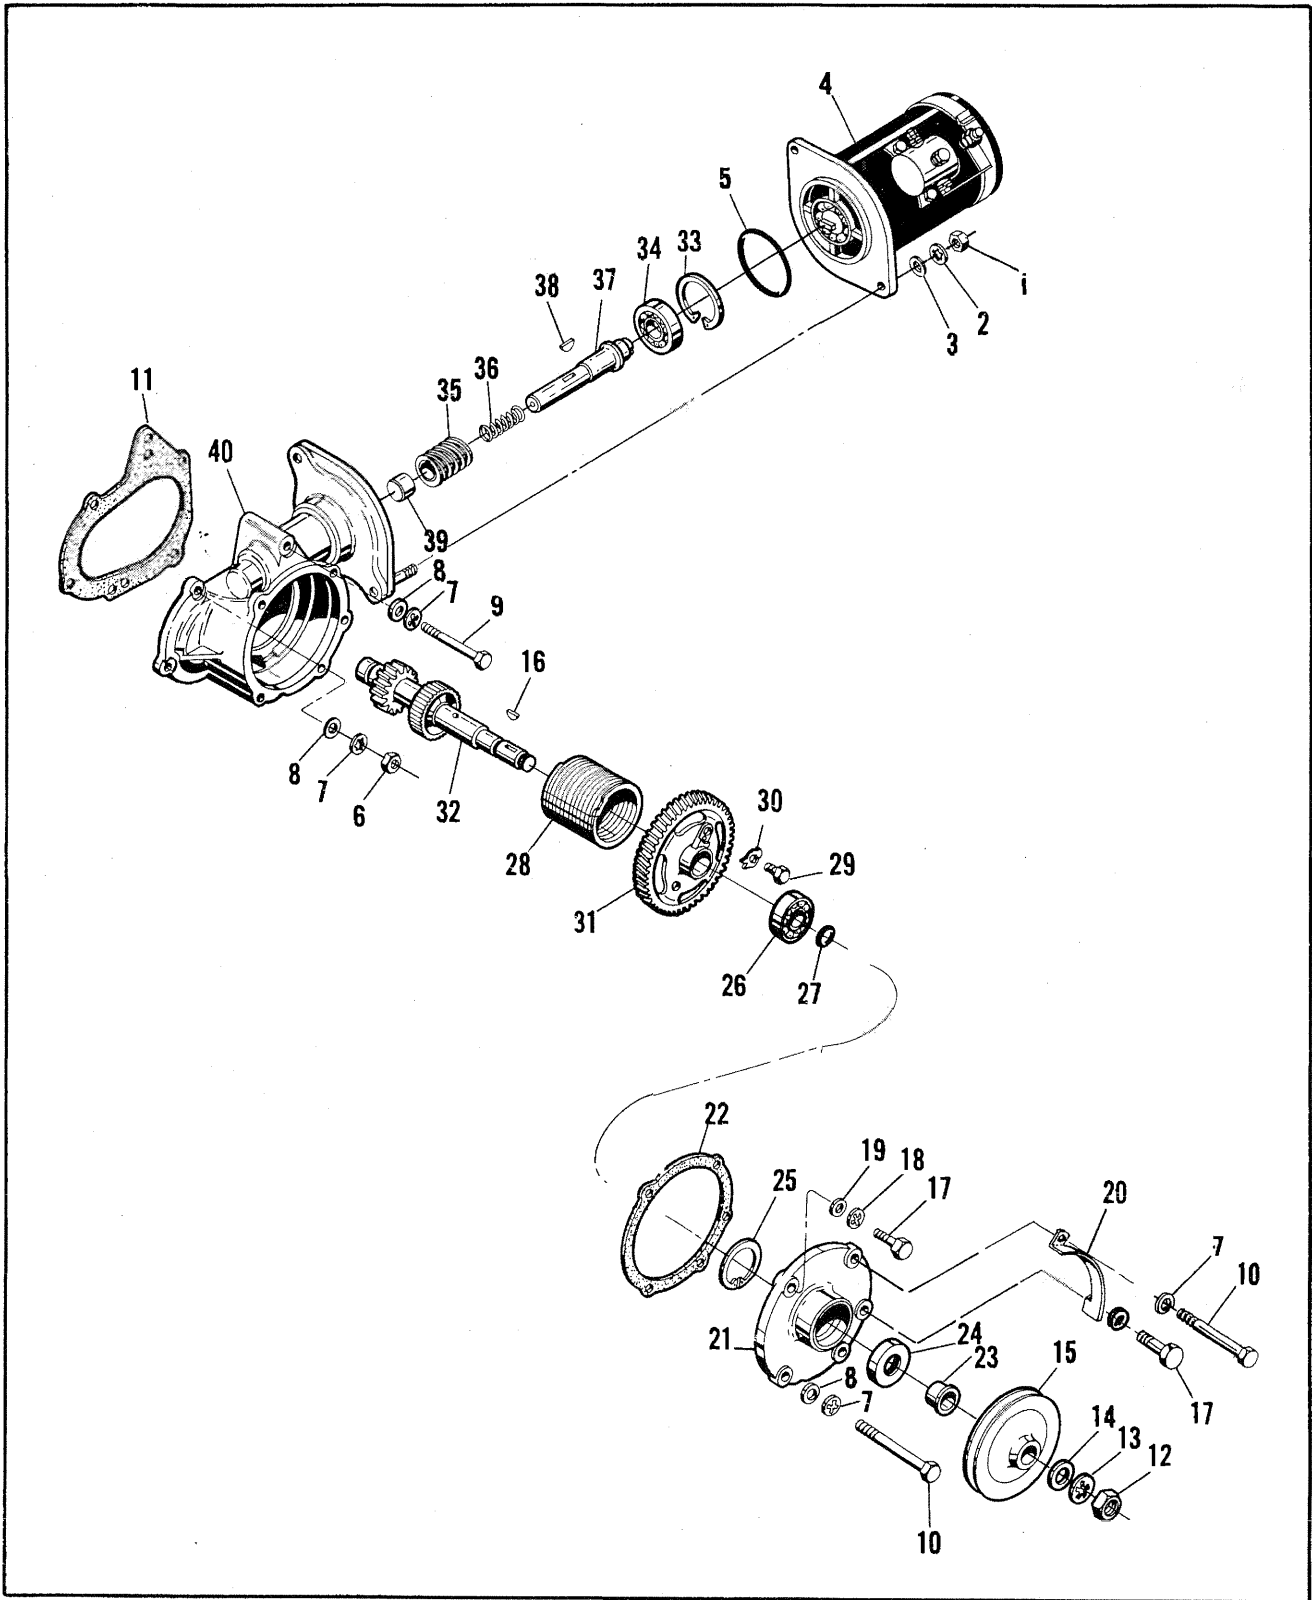

FIGURE 4-20. STARTER AND STARTER DRIVE ADAPTER, SANDCAST ENGINE.
**4-28. STARTER AND STARTER DRIVE ADAPTER, TSIO-520-C, G & H (See Figure 4-20).**
- a. Remove two sets of attaching parts (1,2,3) and pull starter (4) from adapter studs. Remove "O" ring (5).
- b. Remove retaining ring (33) using Truarc No. 5 or No. 25 pliers. Insert a wide blade tool into the worm gear slot and rotate the shaft counterclockwise to break the ball bearing (34) loose from the housing. If possible, remove the entire shaft assembly from the housing. If it does not come completely clear it will be more easily removed after the starter gearshaft has been removed.
- d. Clamp shaft gear (32) in shielded vise jaws and remove nut (12), lockwasher (13) and plain washer (14). Pull sheave (15) from shaft and remove Woodruff key (16).
- e. Remove attaching parts (17,18,19) and pull cover (21) together with sleeve (23), oil seal (24) and retaining ring (25) from shaft. Remove bearing (26) and "O" ring (27). It may require a few raps with a non-marring hammer to dislodge the cover (21) from the housing (40).
f. Use Truarc No. 3 or No. 23 pliers to remove retaining ring (25). Use arbor press to remove sleeve (23) and oil seal (24). Remove gasket (22) from adapter.